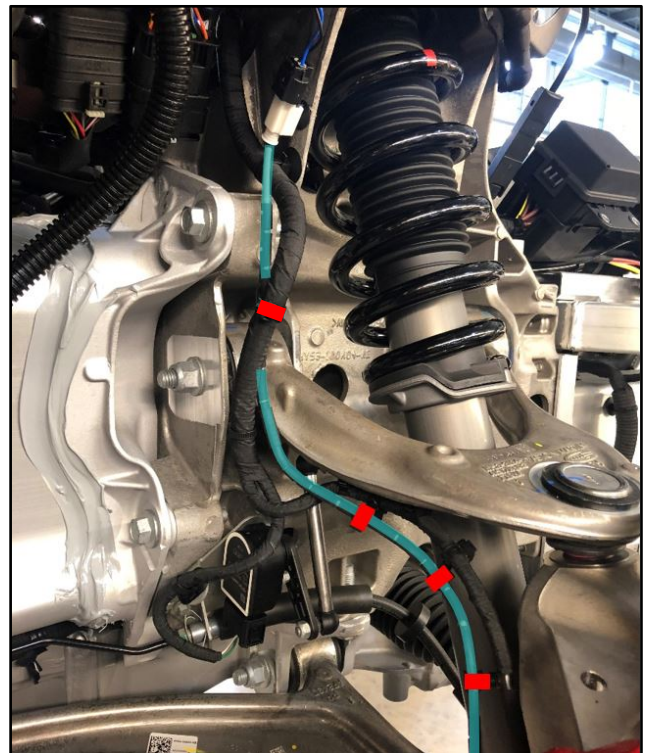

Figure 7
10. Attach the lead with four harness clips. Start this procedure from the end with the white plug (refer to Figure 7).